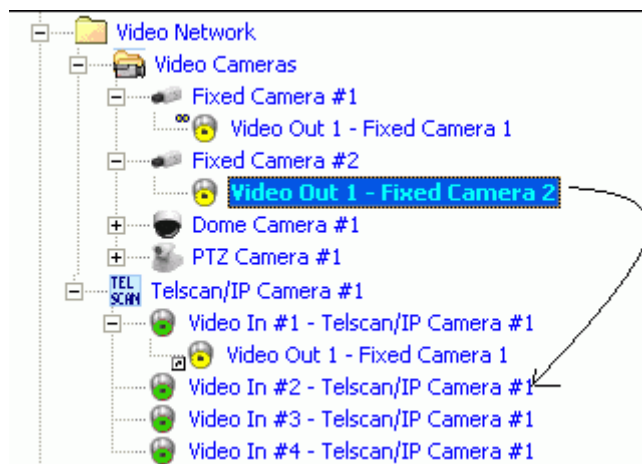

Fig 12 Connecting cameras to TELSCAN
4. Drag and drop the **Video Out** signal to a TELSCAN **Video In** node (Fig 12).